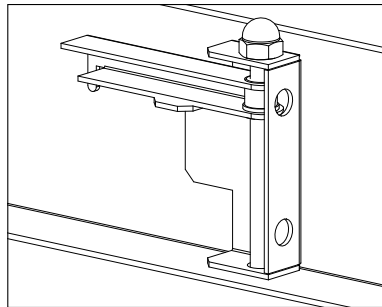

Figure 2
2. Fixture housing lays into grid. Verify four (4) swing arms in the stowed position as shown in Figure 2 (required to maintain fixture IP rating). If securing fixture to the superstructure with hanger wire (by others), loop wire through holes on swing arm attach bracket.